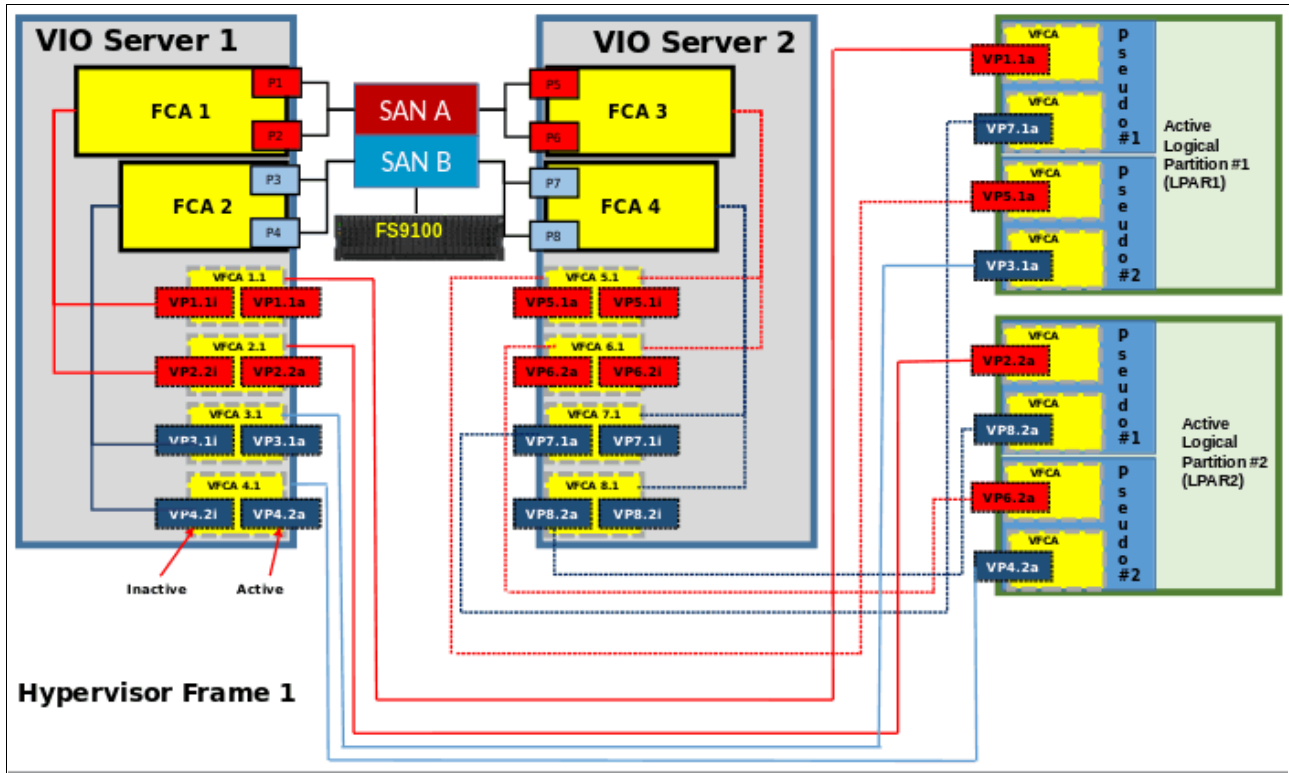

Figure 2-15 LPARs SAN connections
- ▶ Create a pseudo host in IBM Spectrum Virtualize/FlashSystem host definitions that contain only two virtual WWPNs, one from each fabric as shown in Figure 2-15.
Figure 2-15 shows a correct SAN connection and zoning for LPARs.